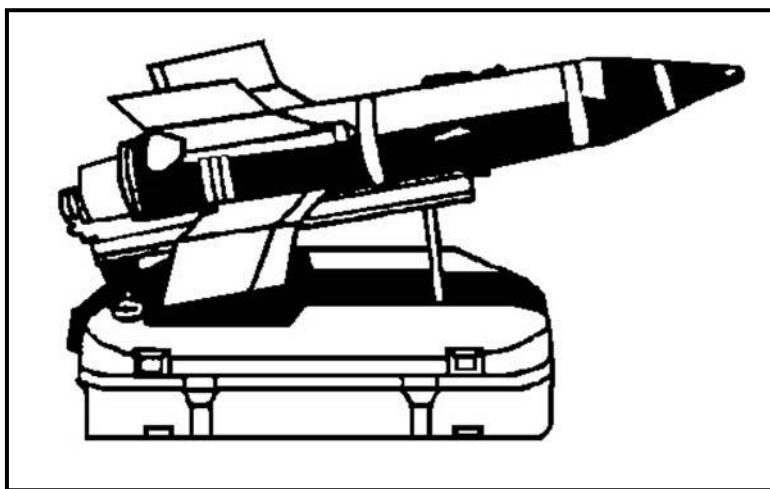

Figure H-16. Russian ATGM launcher, AT-3.
c. Russian ATGM Launcher, AT-3 (Figure H-16).